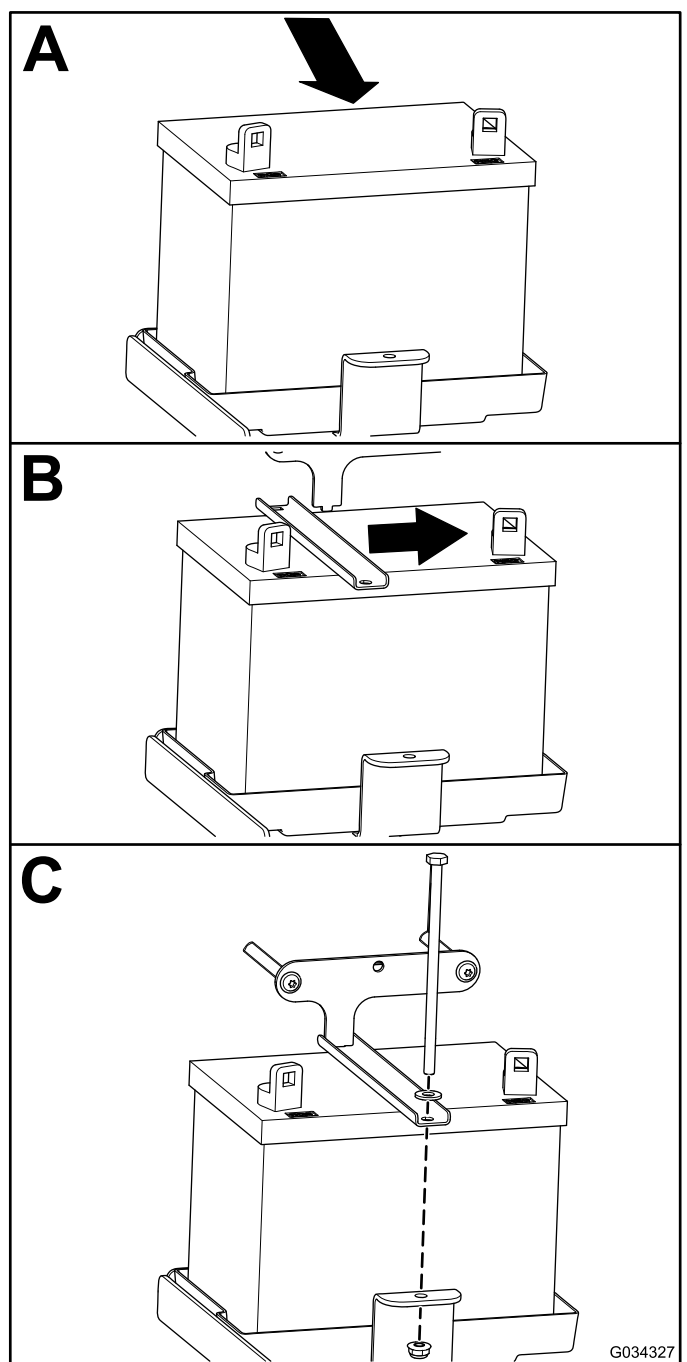

Figure 47
1. Install the battery as shown in Figure 47.